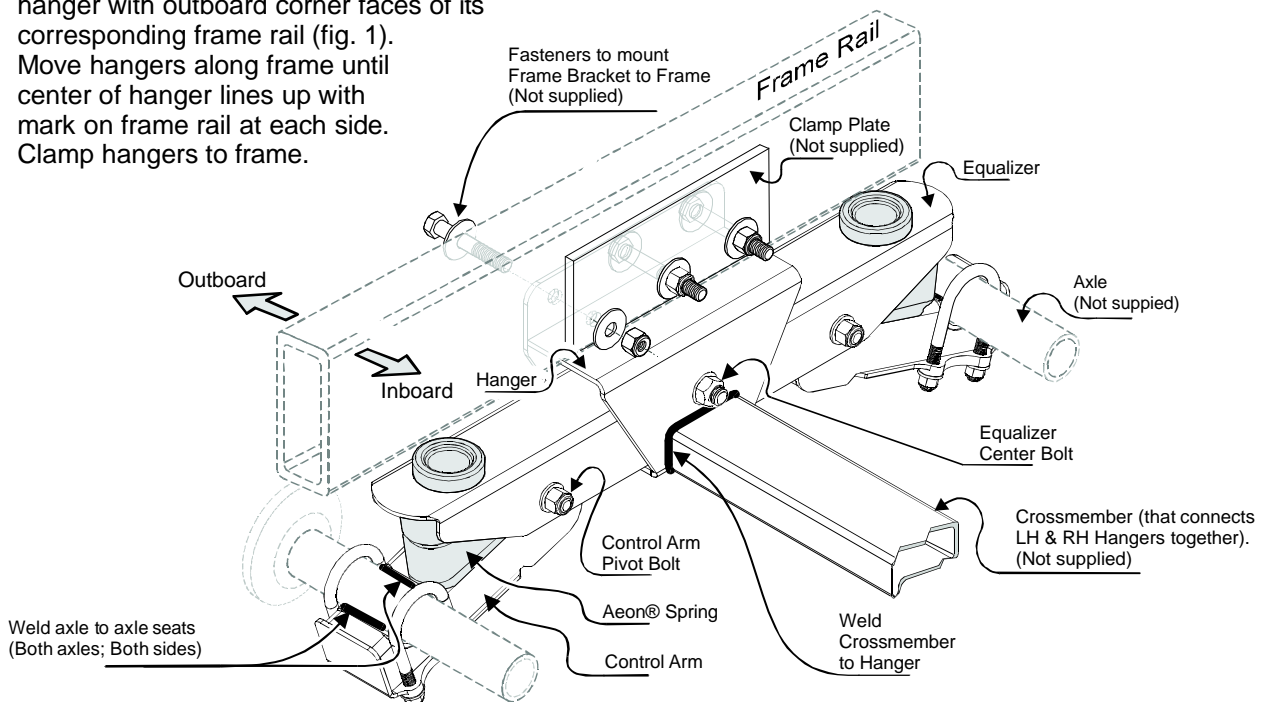

Fig. 1 Installation of suspension to trailer frame (one side shown only, perspective view from inboard)
2. Locate hangers on frame rails, opposite to each other. Mate inboard corner faces of each hanger with outboard corner faces of its corresponding frame rail (fig. 1). Move hangers along frame until center of hanger lines up with mark on frame rail at each side. Clamp hangers to frame.
4. Install crossmember: Make a crossmember using a 2"x4"x3/16" structural steel tube section. The length of crossmember must be the measured width of trailer frame less 9 inches. Once installed, the wider side of the tube must be horizontal (or the narrower side be vertical). Locate crossmember between hangers with each end just below equalizer center bolt. Ensure hangers are perpendicular and crossmember is horizontal to bottom surface of trailer. Tack weld and then weld both ends of crossmember to hanger all around (fig. 1).
7. Weld axle seats to axles (along axle only), as shown in fig. 1. Use 3/16" fillet weld.